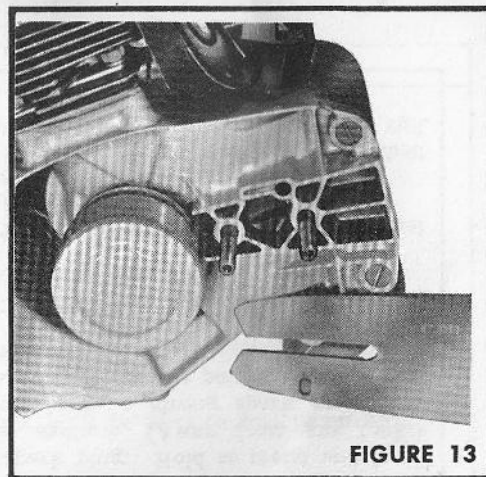

FIGURE 13
9. **CUTTER BAR:** Make sure the bar is clean at all times to assure sufficient chain lubrication (figure 13). Check the cutter bar for wear at regular intervals and turn it over from time to time to make sure the wear is distributed evenly. As wear takes place, a sharp edge is left on the extreme edge of the groove and this should be removed with a flat file. Care must be exercised in servicing bar to prevent damage to chain groove. Use Bar Gauge No. 426235.